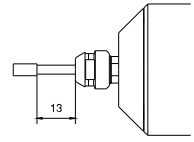

Fig.19
- ② Do not exceed 13mm overhang for mounted grindstones. In case overhang must exceed 13mm reduce the motor speed in accordance with Fig.19.
- ③ Do not use tools with bent or broken shanks, cracks or excessive runout.
- ④ Dress the grindstone prior to use.
- ⑤ For grinding the maximum depth of cut should not exceed 0.01mm radially or axially. Reciprocate the tool several times after each in feed step.
- ⑥ Always operate tools within the tool manufacturer's recommended speed limits. Use of a tool outside of the manufacturer's recommended speed limits could cause damage to the spindle and injury to the operator.
- ⑦ Keep the tool shank and collet clean. If contaminants are left in the collet they can cause excessive runout and damage the tool and spindle.
- ⑧ Do not drop or hit spindle.